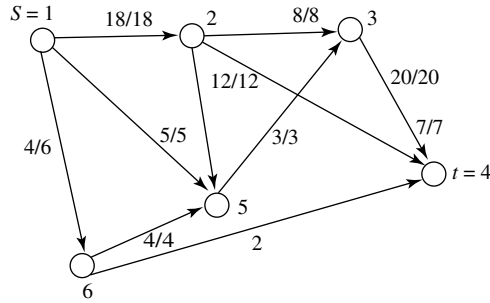

Figure 6.73
- At the end of this plan the graph is Figure 6.73.